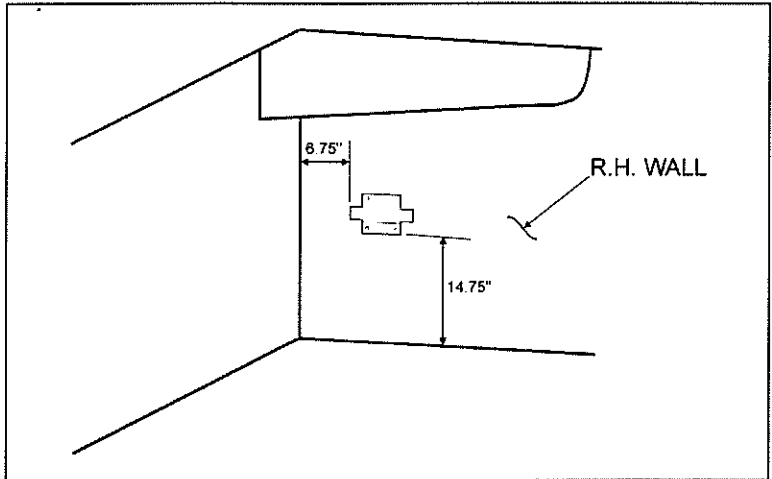

Fig. 5 - Filter Drier Support Installation
6. Position new filter drier support (#45-2547) on condenser compartment R.H. wall, as illustrated in figure 5, then using filter drier support as a template, mark location of the four holes to be drilled.